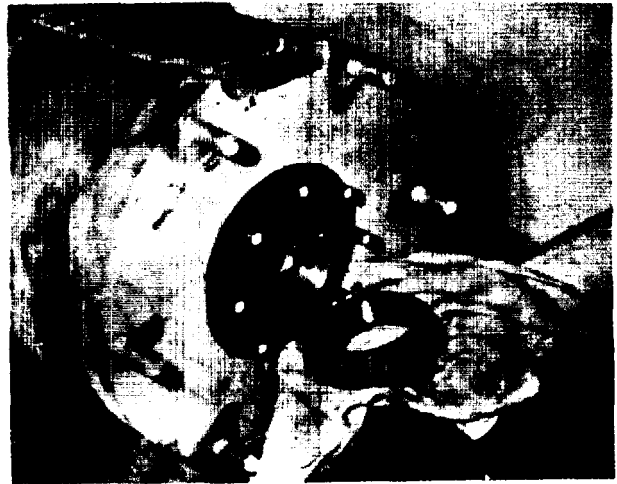

FIGURE 8-42.
e. Install the outer bearing cone (see figure 8-42).